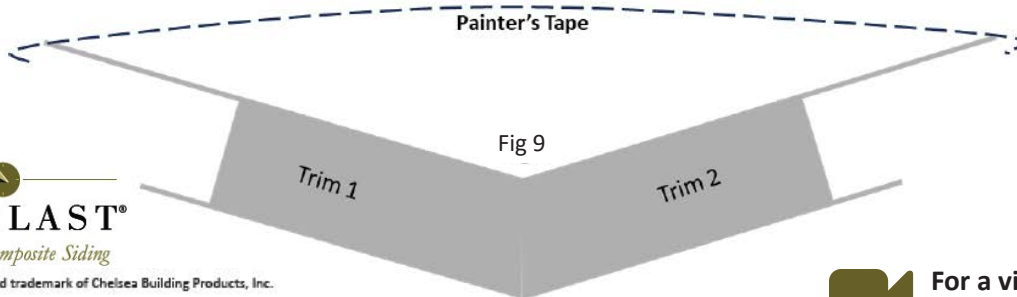

Fig 9
- Secure both trims together at the glued surfaces (Fig 9). Make sure you line up your ends and joint.